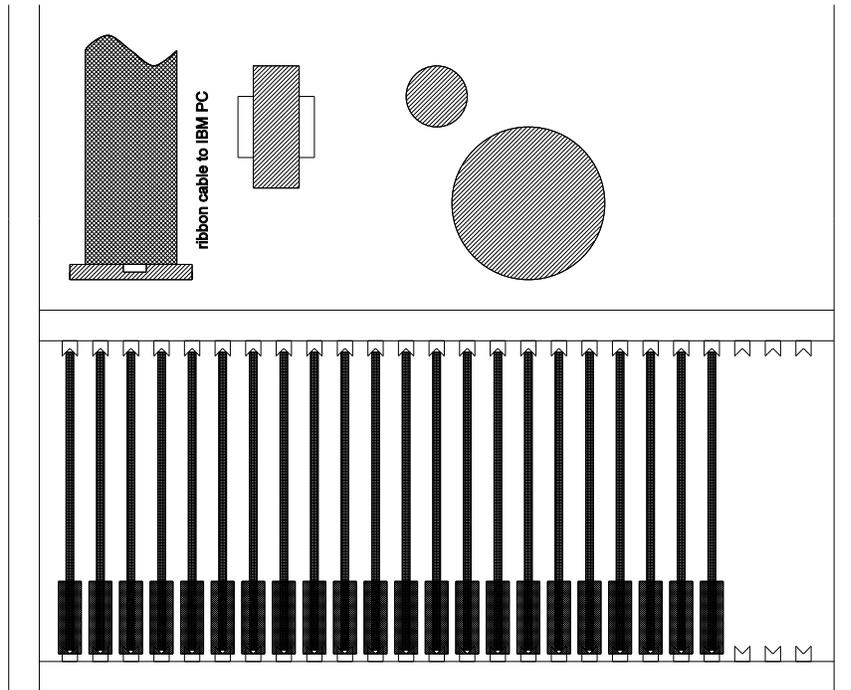

Figure A.2 : Mann 3000 Electronics Chassis ( interior, top view )
- [5] Remove the four screws in the front corners of the electronics chassis and carefully pull out the drawer, taking care not to jam any internal cabling. This chassis should contain the interface electronics as shown in Figure A.2